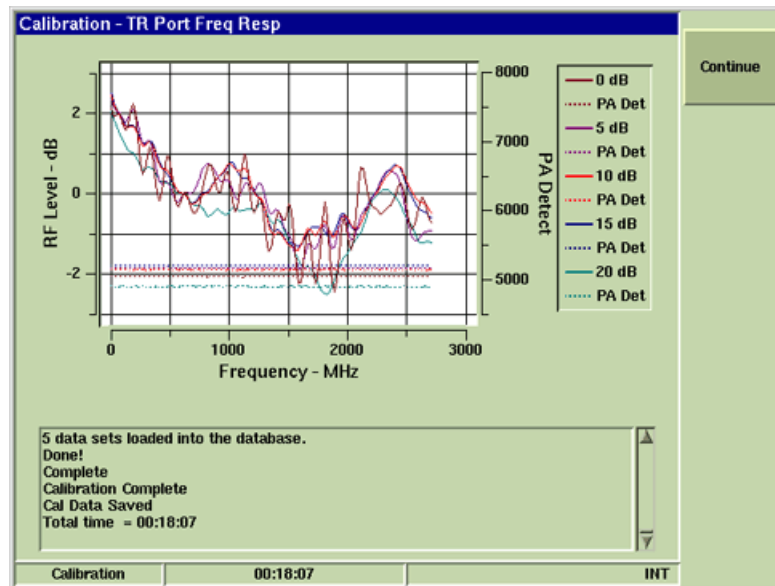

Fig. 4-12 T/R Port Signal Trace
- When the T/R Port Freq Response Calibration Procedure is complete, verify Calibration Complete is displayed in dialog box. Verify signal traces on Test Set resemble signal traces shown in Fig. 4-12.